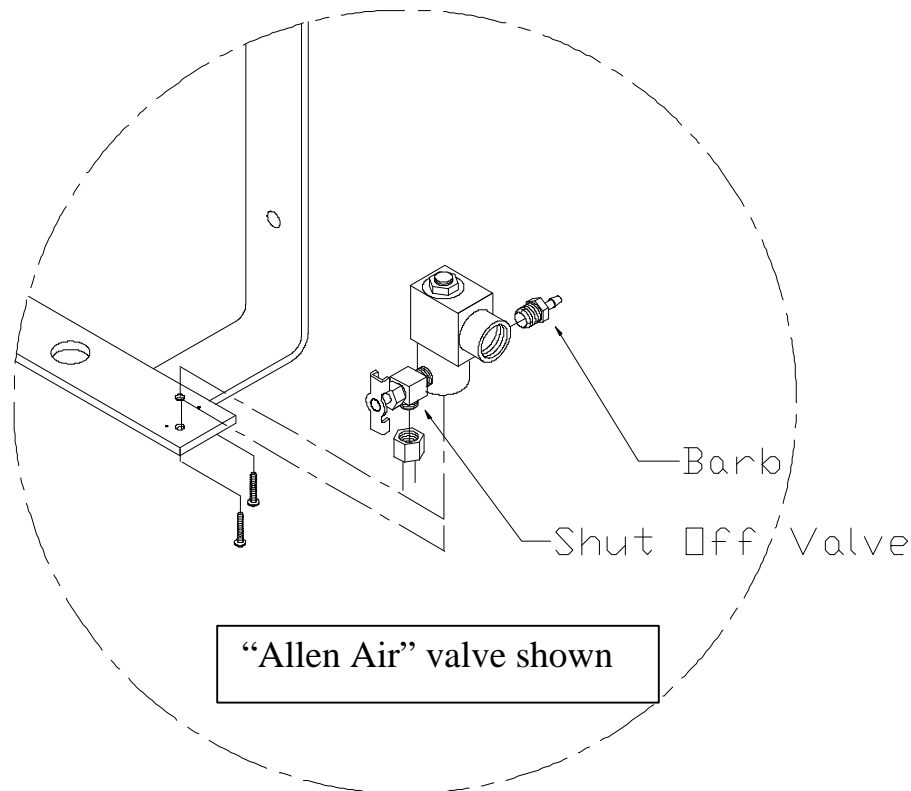

Figure 5
- Using a pair of needle nose pliers, place the jaws on either side of the air hose, and *gently* pry the hose off the barb that is mounted to the valve. Take care not to damage the barbs (figure 5).